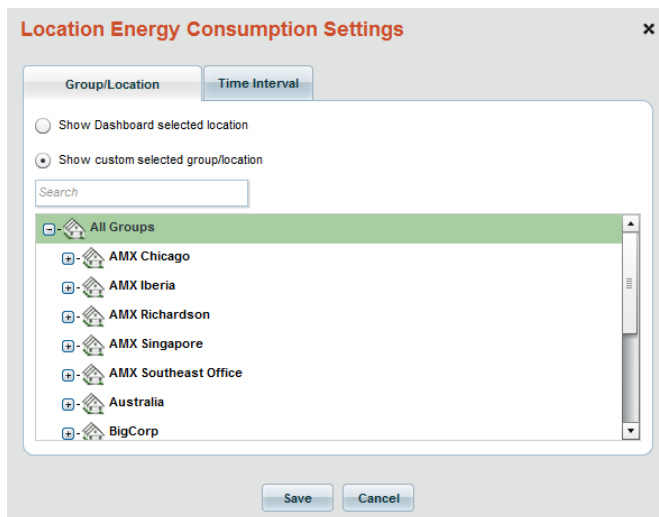

FIG. 127 Location Energy Consumption Settings dialog - Group/Location tab
2. Click **Show custom selected group/location** to enable the Location Groups selection window shown in FIG. 127: